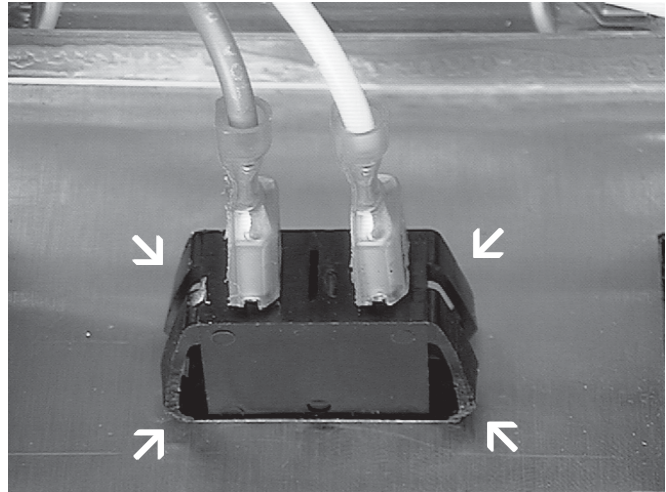

Figure 30. Switch/Indicator Removal
4. Squeeze the four plastic retainers together and push out through the hole. Figure 30.